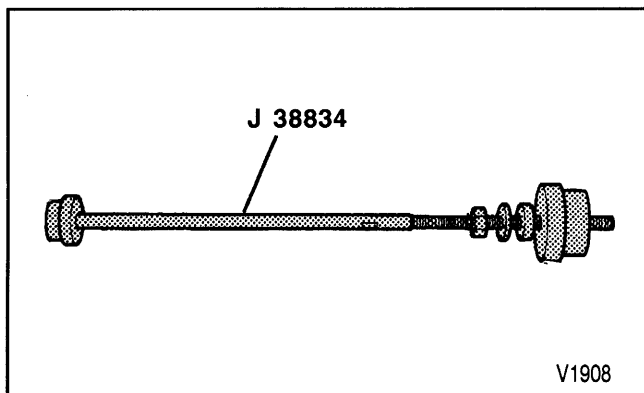

Figure 33—J 38834 Positioned to Install Balance Shaft Rear Bearing
Install or Connect (Figures 33 through 36)
1. Balance shaft rear bearing using J 38834 (figures 33 and 34).